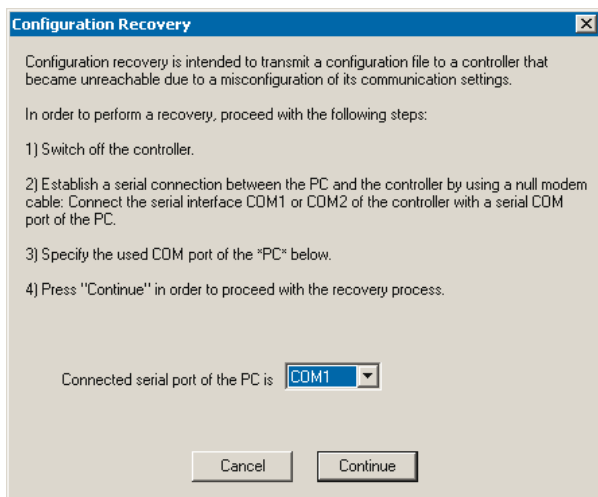

Figure 11.2 Recover pop-up window
1. In the Config software, go to PSD-Controller. Check for correct settings as described in Section 6.6. Press the **"Recover..."** button located in the lower left corner of the window (see Figure 6.15). A new window will pop up (see Figure 11.2).
2. Follow the steps in the screen shown in Figure 11.2.